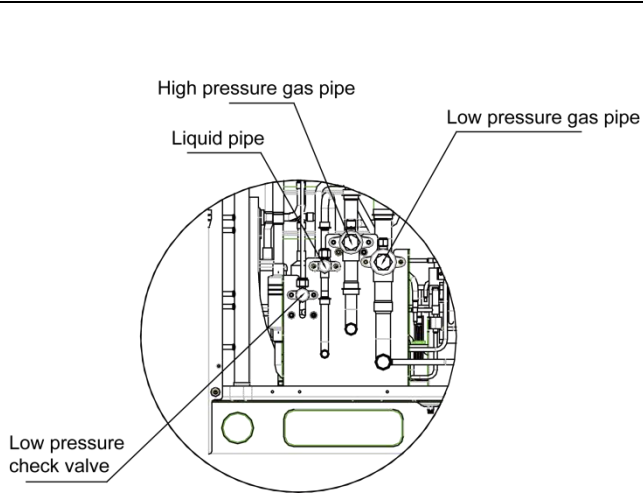

Fig. 2-1
a. ① Before vacuum pumping, make sure that outdoor unit's liquid valve, high pressure gas valve and low pressure gas valve are completely closed. Use vacuum pump to extract air inside indoor unit and connection pipe from the nozzles of liquid valve, high pressure gas valve and low pressure gas valve of outdoor unit, as shown in Fig. 2-1. ② Because air extraction from outdoor unit's liquid valve, high pressure gas valve and low pressure gas valve must be performed simultaneously, 2 sets of vacuum pump must be used at the same time to guarantee the required vacuum degree.